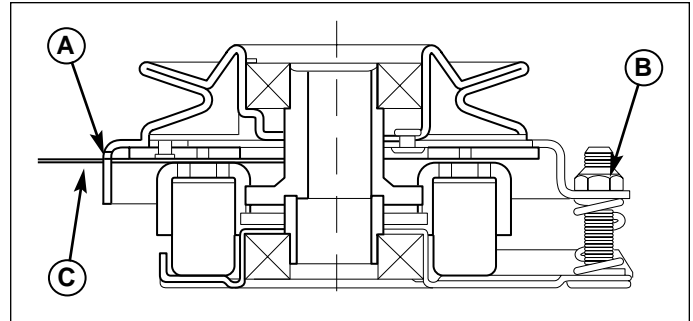

Figure 26. Adjust PTO Clutch
3. Insert a .016"-.018" (0.40-0.45mm) feeler gauge (C) through each window, positioning the gauge between the rotor face and the armature face as shown in Figure 26.